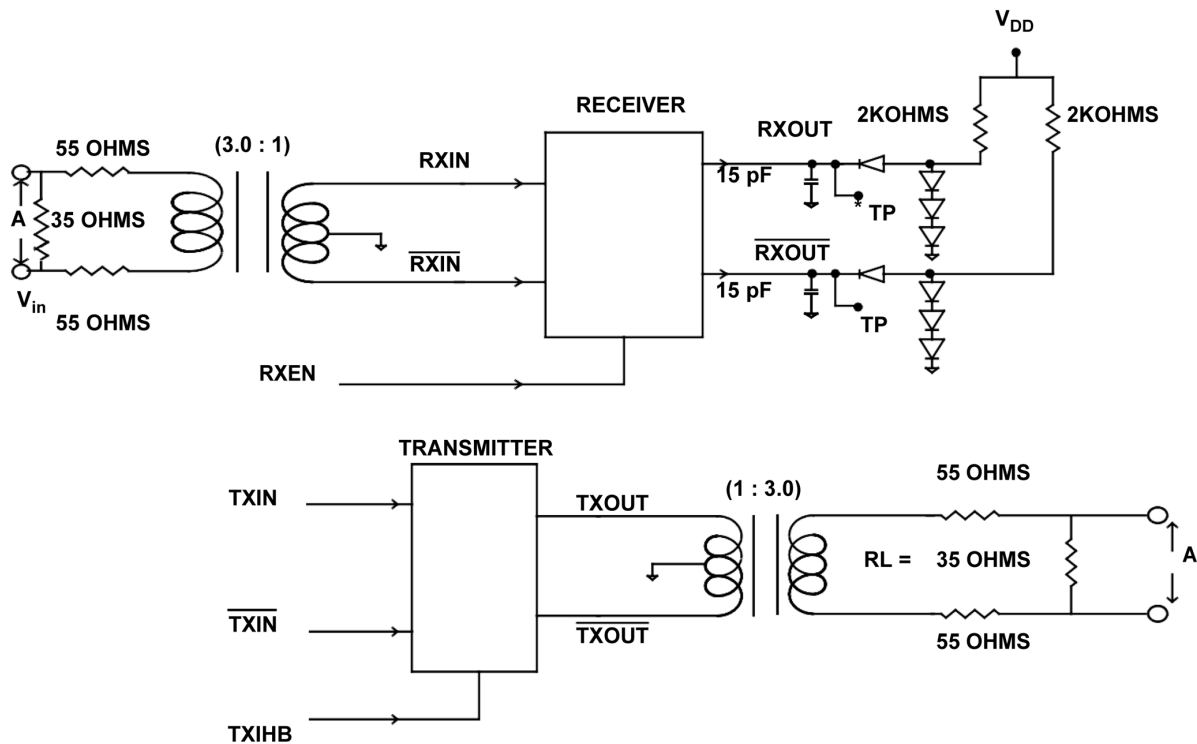

Figure 6. Direct Coupled Transceiver with Load
Terminal is defined as transceiver plus isolation transformer and fault resistors. Point A is defined in figure 6.
- 1) All tests guaranteed per test figure 6.